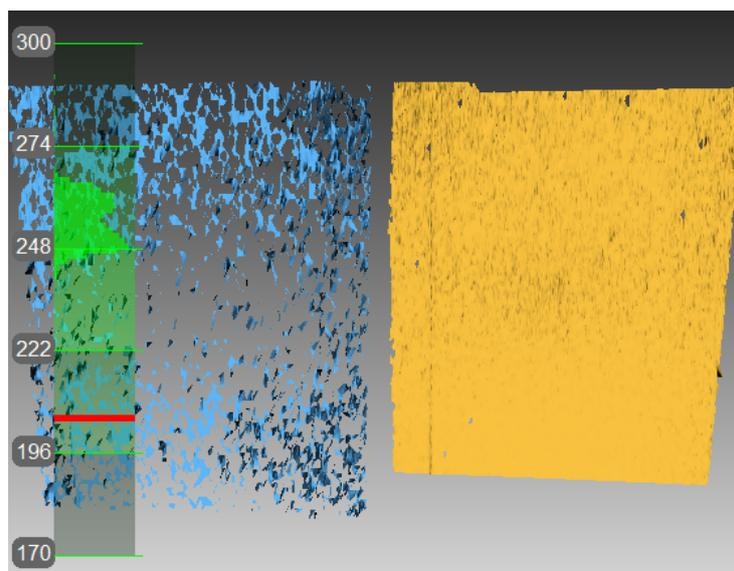

Figure 132: Artec Spider correction results.
In some cases, owing to careless handling or transportation (jolts, accidental drops or some other reason), the scanner may fail to capture surfaces properly. The scanned surfaces may only be partially reconstructed or may contain holes (for example, the results of bad reconstruction are noticeable on the blue surface in Figure 132). You can resolve these issues by correcting or calibrating the scanner.
9. Repeat Step 8 three more times. Once you finish, the calculation will start. A yellow plane that corresponds to the surface you captured using the corrected calibration settings will then appear in the *3D View* window (see Figure 132).